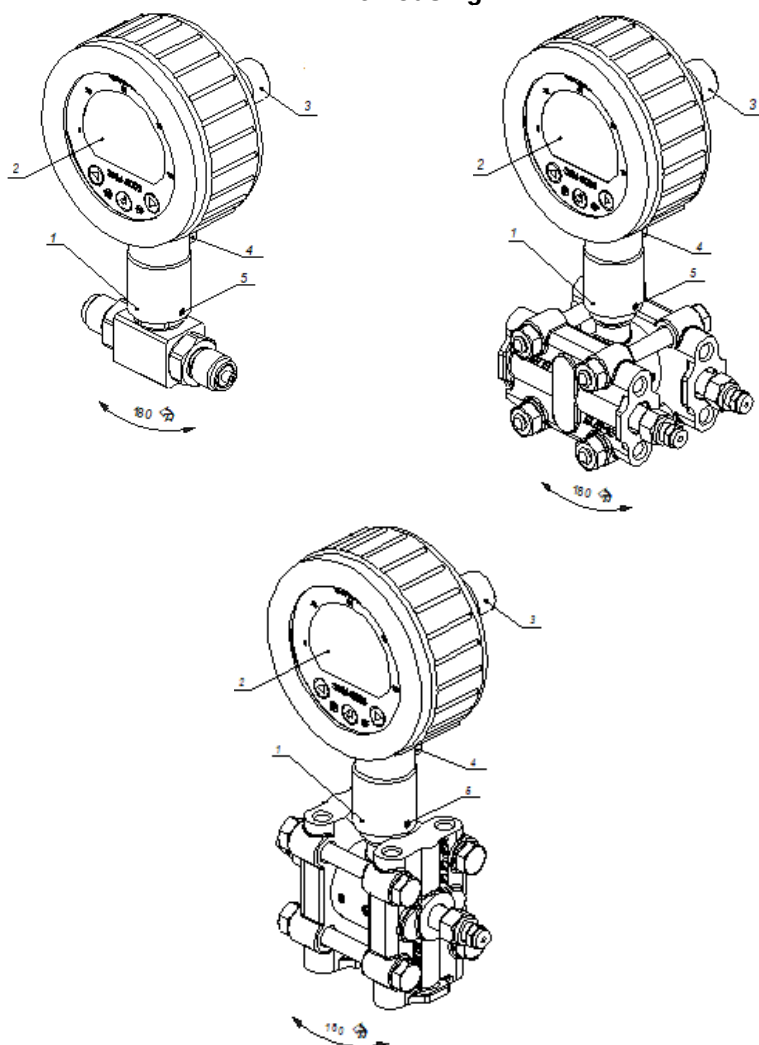

Figure 2.6
- loosen the locking screws (see Figures 2.6, 2.7);
- rotate the electronic unit housing (see Figures 2.6, 2.7);
Designations for Figure 2.6: